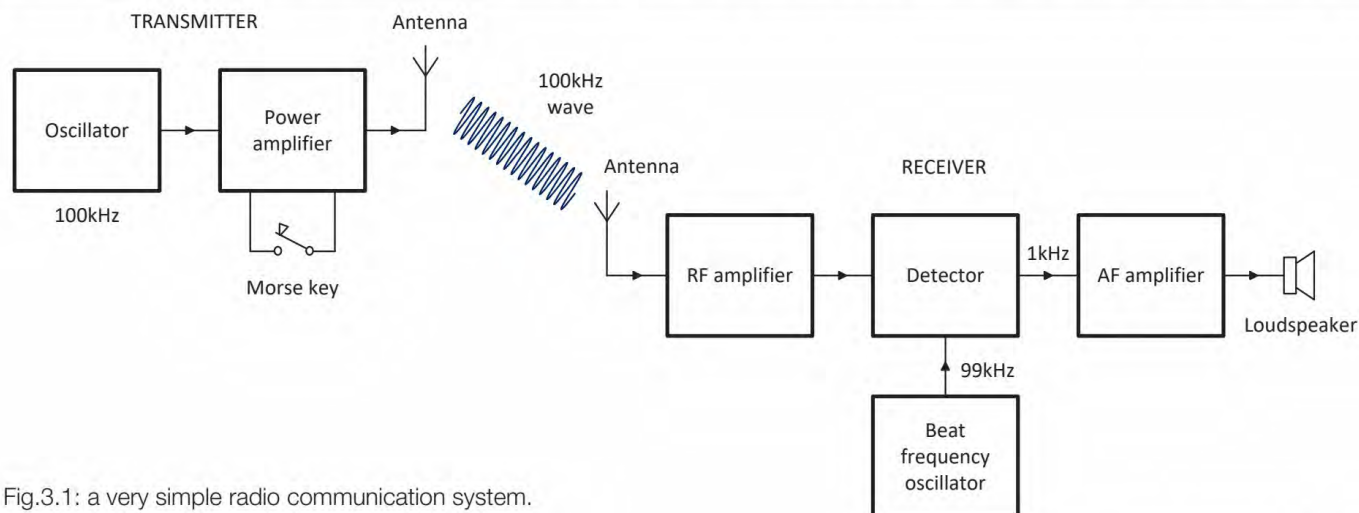

Fig.3.1: a very simple radio communication system.
Let's start with a very simple radio communication system comprising a transmitter (TX) and receiver (RX) in which communication is achieved by simply switching (or 'keying') the radio frequency signal on and off (see Fig.3.1).